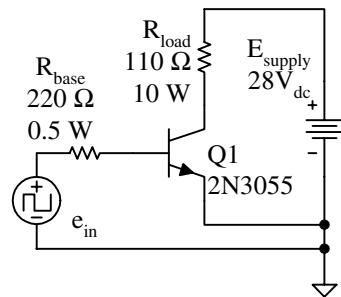

Figure 6-33 Bipolar junction transistor switch
1. Build the circuit in Figure 6-33. Set the load resistor to $110\ \Omega$, $>10\text{ W}$.